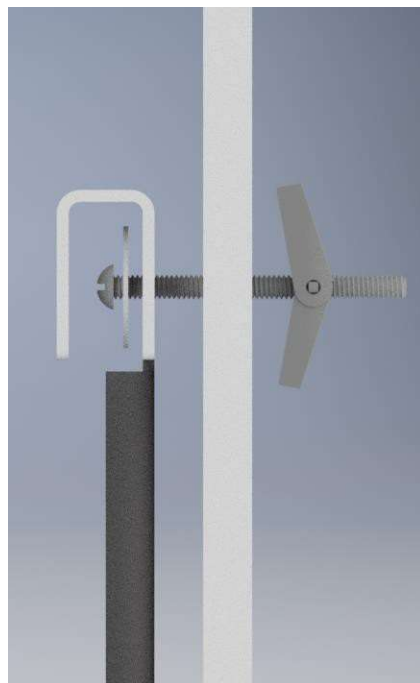

Fig 2
7. Insert all four wing bolt assemblies into the holes. Make certain that the wings nuts have expanded and that all four wing bolts and flat washers are sticking far enough out of the wall that the wall mount bracket can be hung on them as shown in fig 2.